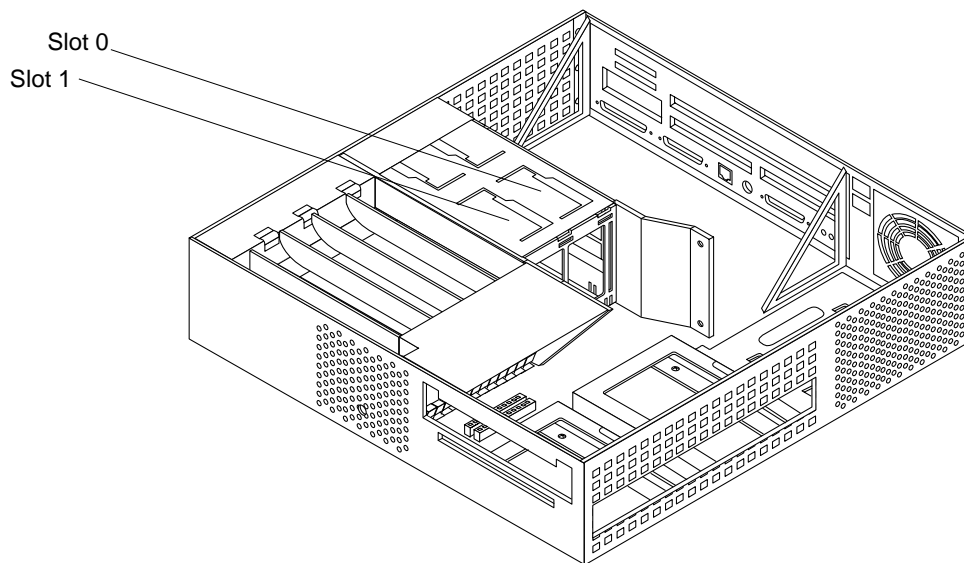

Figure 5-1 Ultra 2 Processor Slot Locations
3. **Identify the appropriate or available slot (Figure 5-1).**